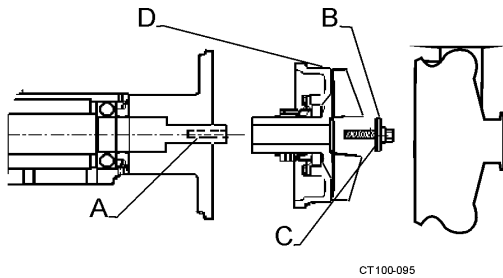

Figure 59 - Installing Impeller Assembly
11. Install the impeller key (Figure 59, item A).
12. Install the o-ring on the impeller retainer bolt (Figure 59, item C).
13. Install the impeller retainer bolt and tighten it (Figure 59, item B).